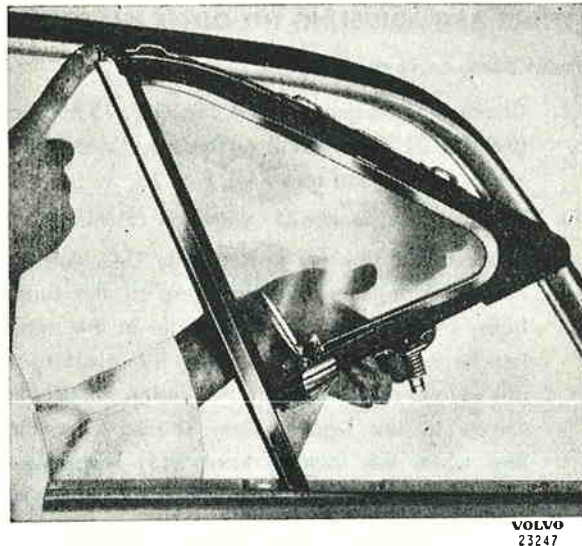

Fig. 34. Lifting out the ventilation window
5. Lift up the window as shown in Fig. 34.